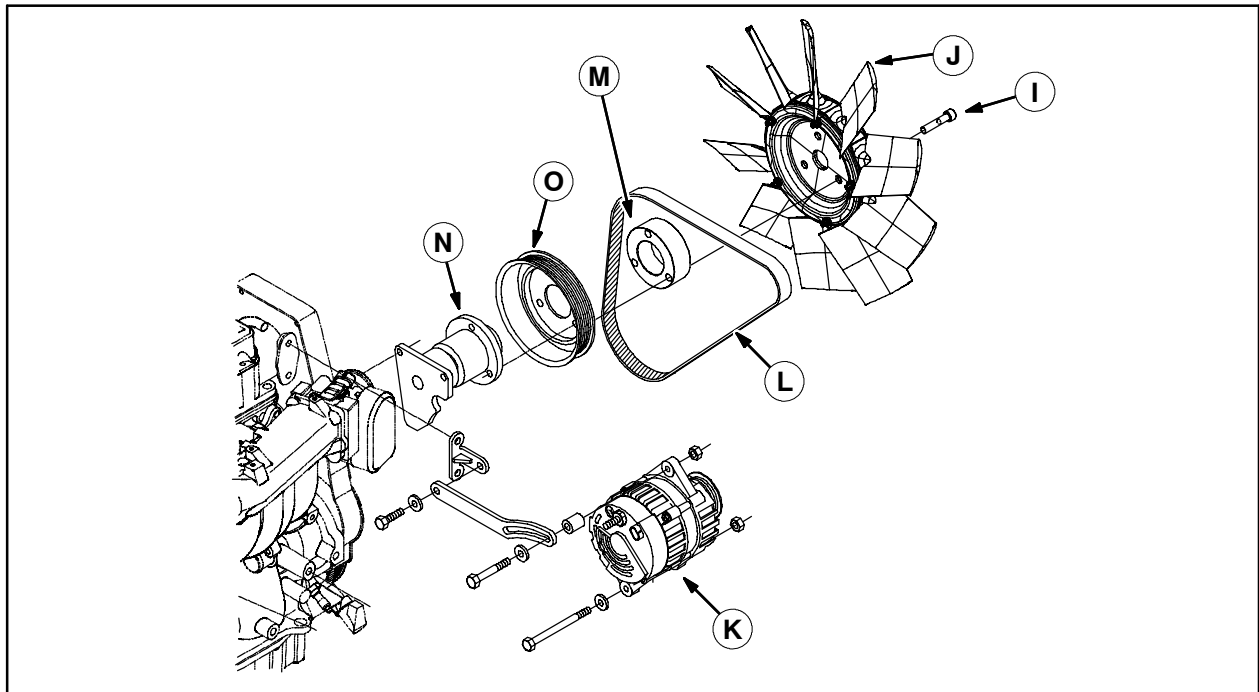

FIG. 4
14. Use a 5/16" Allen wrench to remove the hardware (I) holding the fan (J) onto the engine and remove the fan. Discard the fan and hardware. Refer to Fig. 4.
16. Relieve the fan belt tension at the alternator (K) and remove the fan belt (L) from the machine. Discard the fan belt. Refer to Fig. 4.
17. Remove the spacer (M) and sheave (O) from the fan base (N). If necessary, use a chisel and hammer to knock the spacer (M) loose from the engine shaft (N). Be careful not to damage the fan base if using a chisel. Refer to Fig. 4.